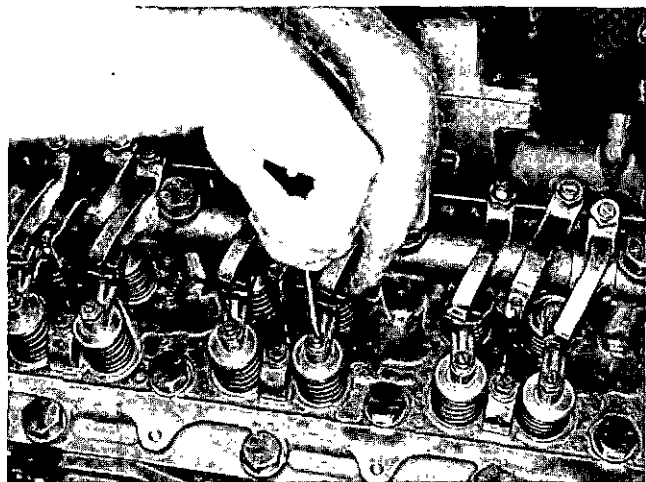

Fig. 2-57 (V51490) Adjusting crossheads
3. Turn down crosshead adjusting screw until it touches valve stem. Fig. 2-57.